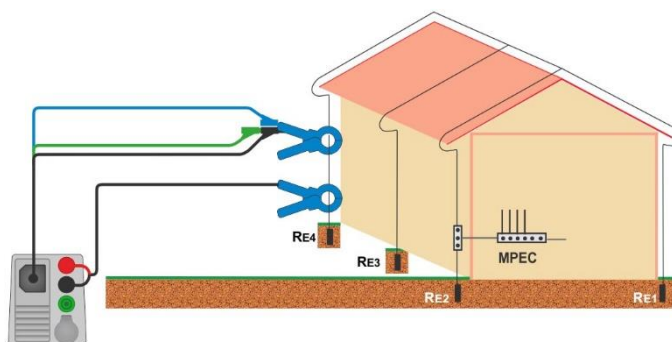

Figure 7.94: Contactless earthing resistance measurement
- › Clamp on object under test, see **Figure 7.94**.